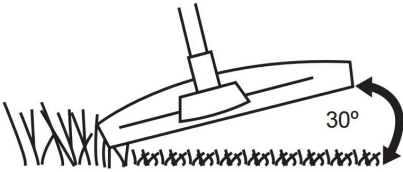

Fig. 44
4. Hold the trimmer head just above the ground at an angle of approximately 30° (Fig. 44).